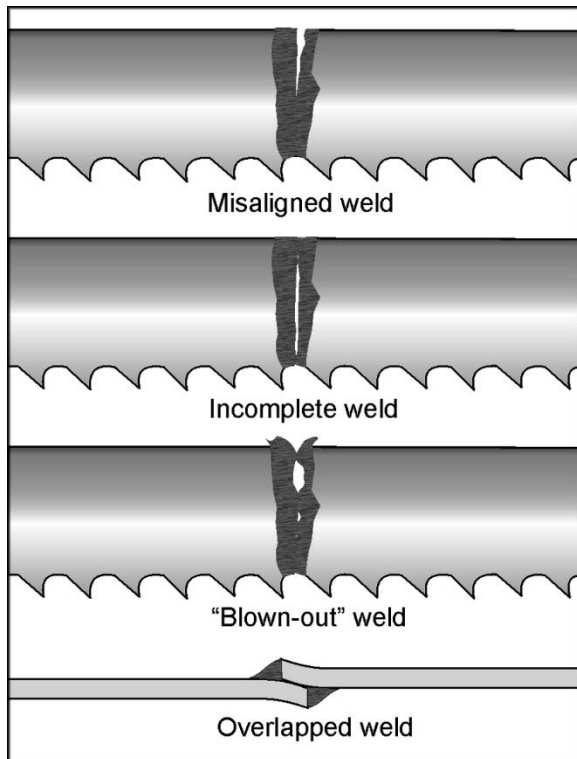

Figure 13
10. Remove blade from clamps, and carefully inspect it. The spacing of the teeth should be uniform and the weld should be located in center of gullet. Misalignment is easily noted at this time from the weld appearance. See Figure 13 for examples of incorrect welds.
3. Quickly press and release ("jog") the anneal button (Figure 13). Repeat jog process until you see a slightly red glow from weld area.